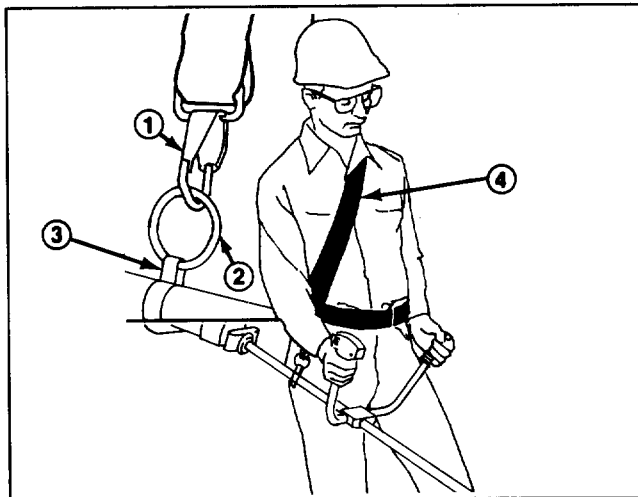

Figure 3
ATTACH HARNESS (Fig. 3)
1. Unsnap harness hook from ring (Fig. 3).